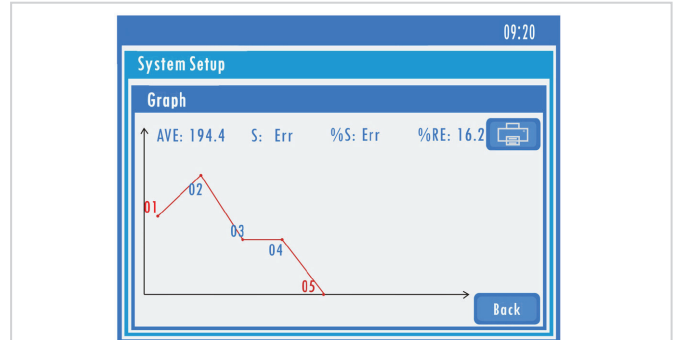

Fig 5-19 Single Test Review
**3) Graph:** under the result list to select more pieces data ( $\leq 10$ ), then click graph, system will show the curve to see the tendency and amplitude of variation, we can obviously see the differences between each data. The Max and Min value will be showed in red. See below picture Fig5-19, result on curve is the hardness value.